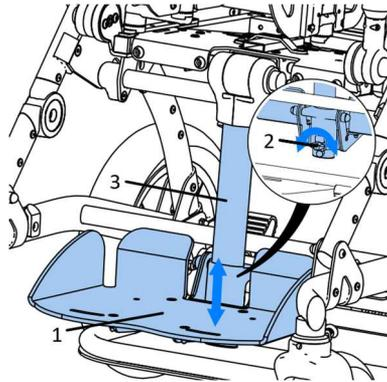

Fig. 23
Changing the height of the position Fig. 23 the footrest platform (1) relative to the seat surface allows you to adjust the position of the platform to the user's needs. To change the position of the platform, unscrew the screw (2) and then move the platform along the guide profile (3). The position is locked after screwing in the screw (2).